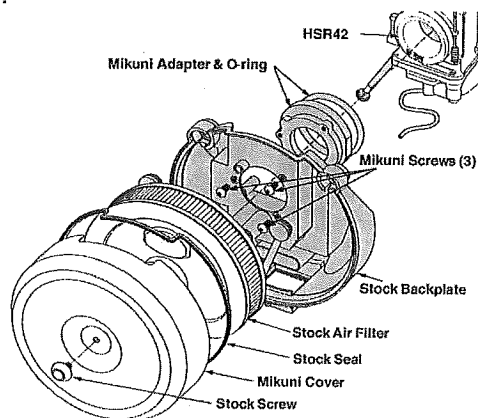

Figure 3
- Use a small amount of thread lock on each of the screws (Figure 3).